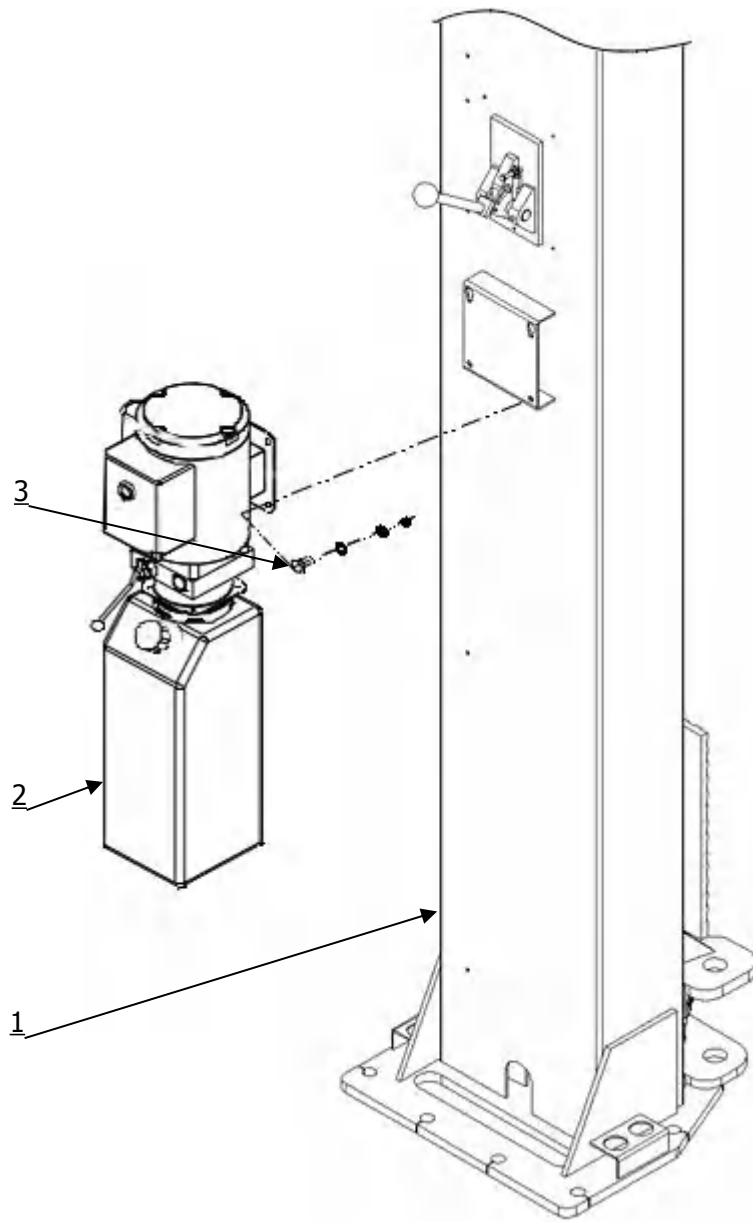

Fig.34
L. Install power unit (See Fig. 34)